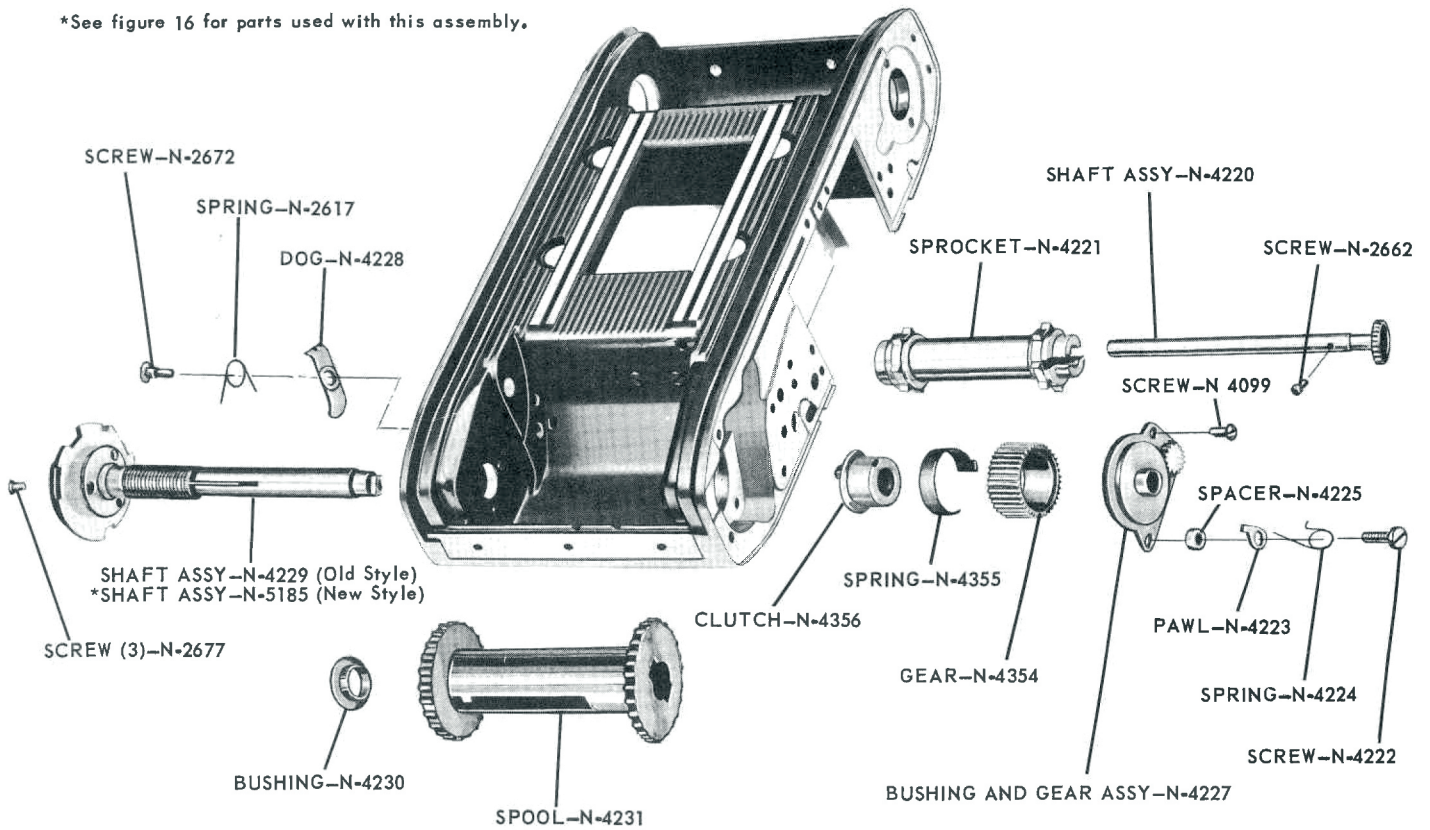

FIGURE 17
*These parts are used with the new style Shaft Assy-N-5185, see figure 17.